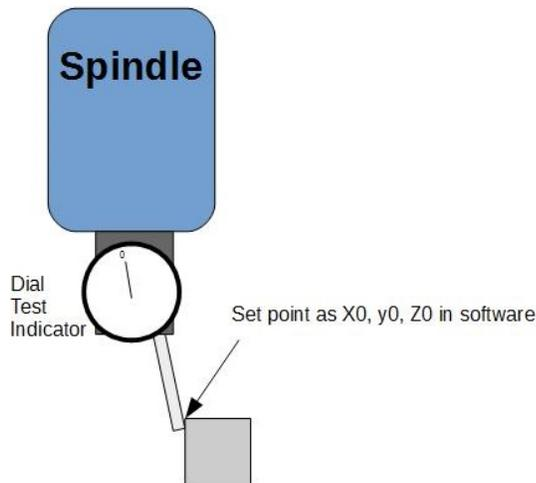

Figure 6.11.1
- 5. Move the dial indicator into position:** Start from away from the block and jog towards it. Set jog panel mode to incremental when you get close. Move the spindle so that the dial indicator is reading as close to "0" as possible as demonstrated in Figure 6.11.1.